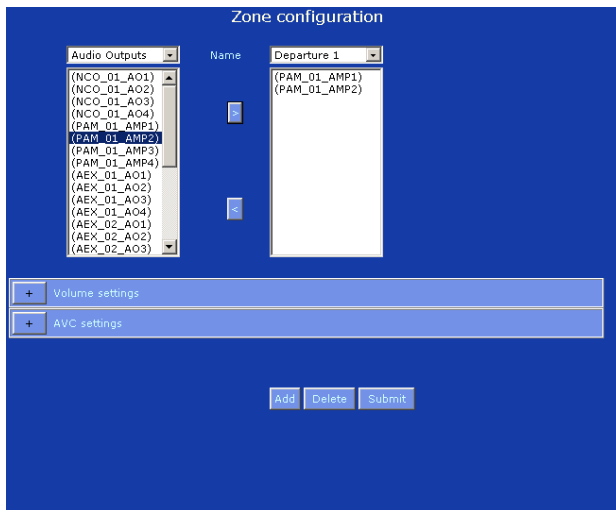

figure 36.11: Delete a zone, step 1
- 1 Go to *Configure > Zone & Amplifier > Zone configuration*. A screen similar to the one in figure 36.11 appears.